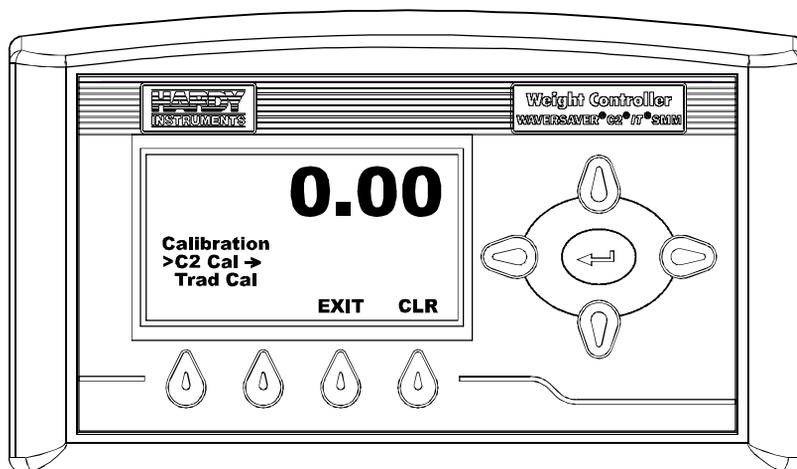

FIG. 305 CALIBRATION MENU/SELECTING C2 CAL
Step 4. Press the Enter button. The Calibration menu appears. (See Fig. 305)